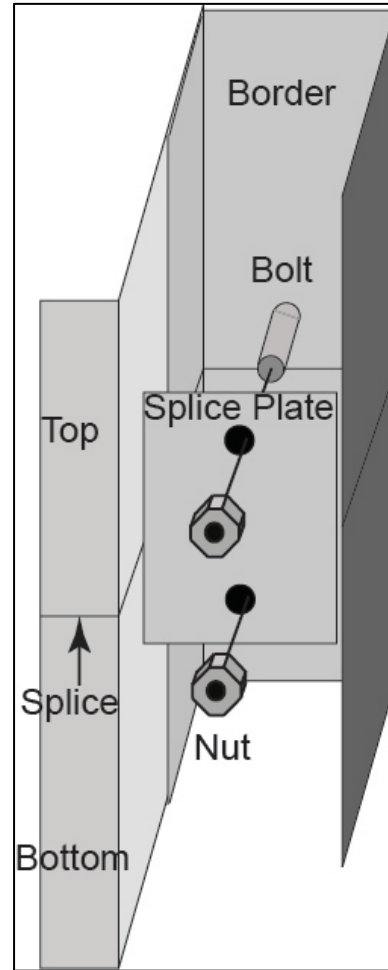

Figure 17: Border Splice Plate Detail
20. Locate the border splice plate. Refer to **Figure 17**.
22. Install the nuts onto the bolts. Refer to **Figure 17**.